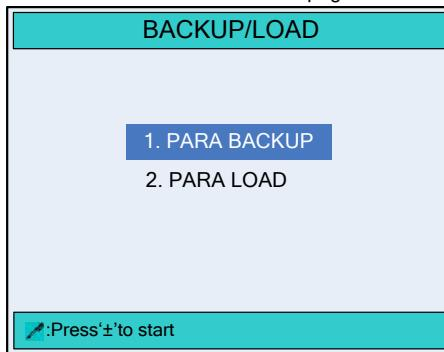

Figure 3-10 The **BACKUP/LOAD** page
On the **SYS PARA**. page, move the cursor to parameter **5.BACKUP/LOAD** (or press the number key 5), and press to enter the **BACKUP/LOAD** page, as shown in Figure 3-10.